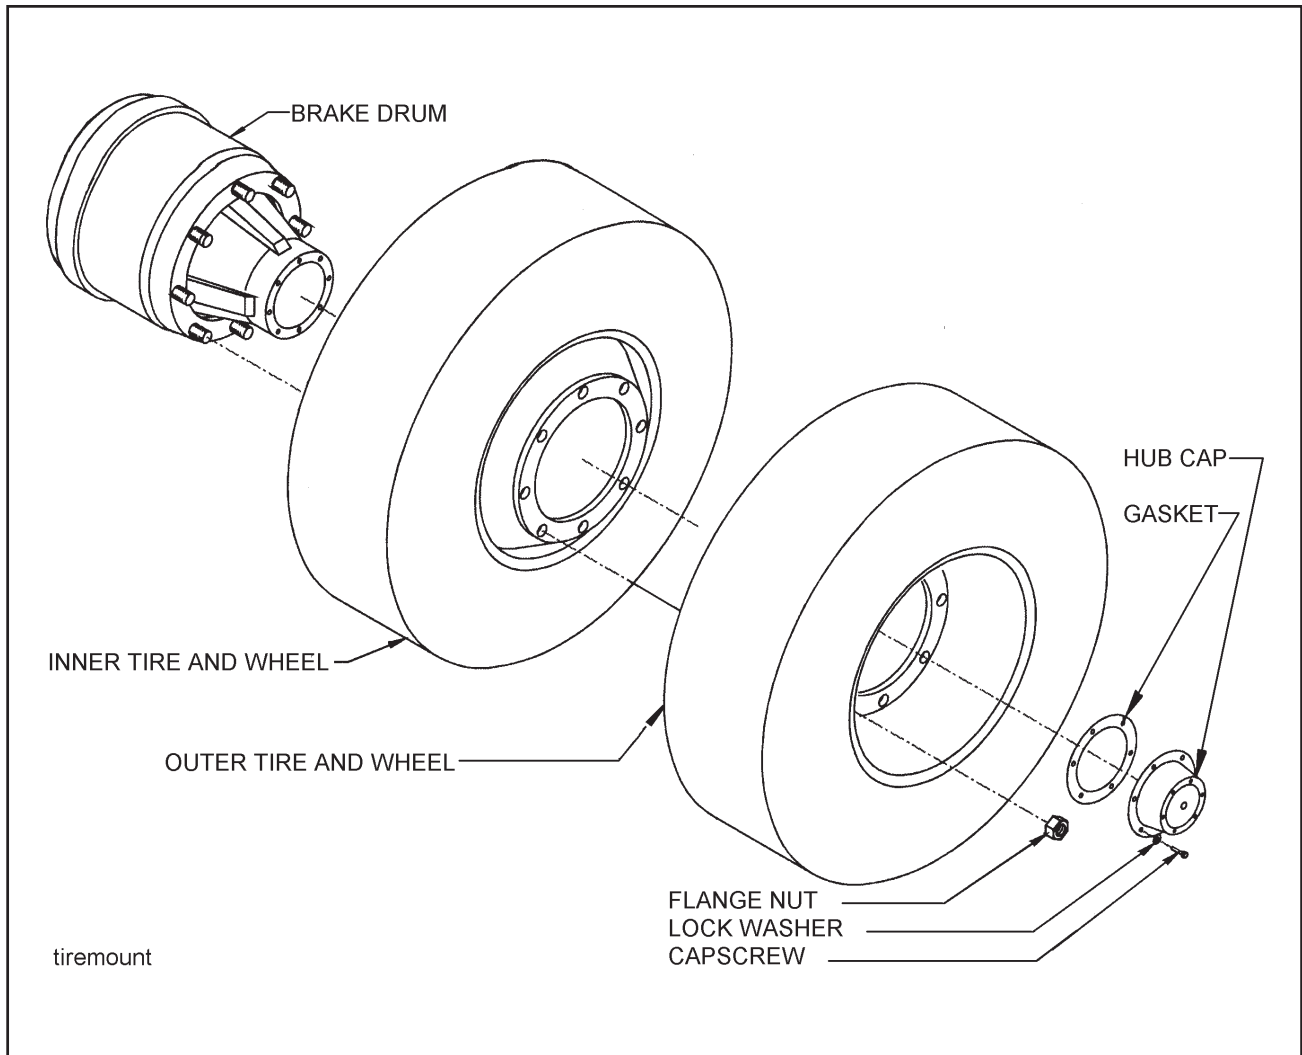

Figure 4-17 Mounting Tires and Wheels
- a. Make sure that all mounting surfaces are clean and free of rust, dirt or paint. A wire brush may be used to clean these surfaces (**See Figure 4-17**).